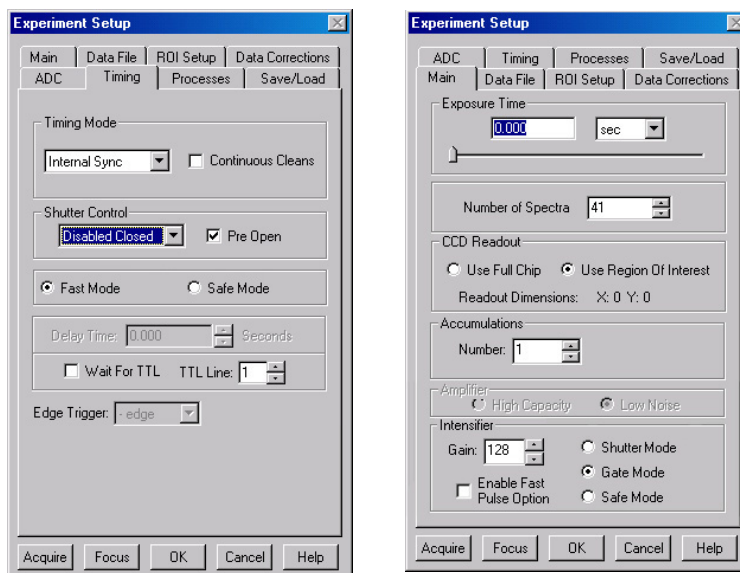

Figure 51. Experiment Setup: Timing and Main tabs
- On the **Timing** tab, change the timing as shown in Figure 51.